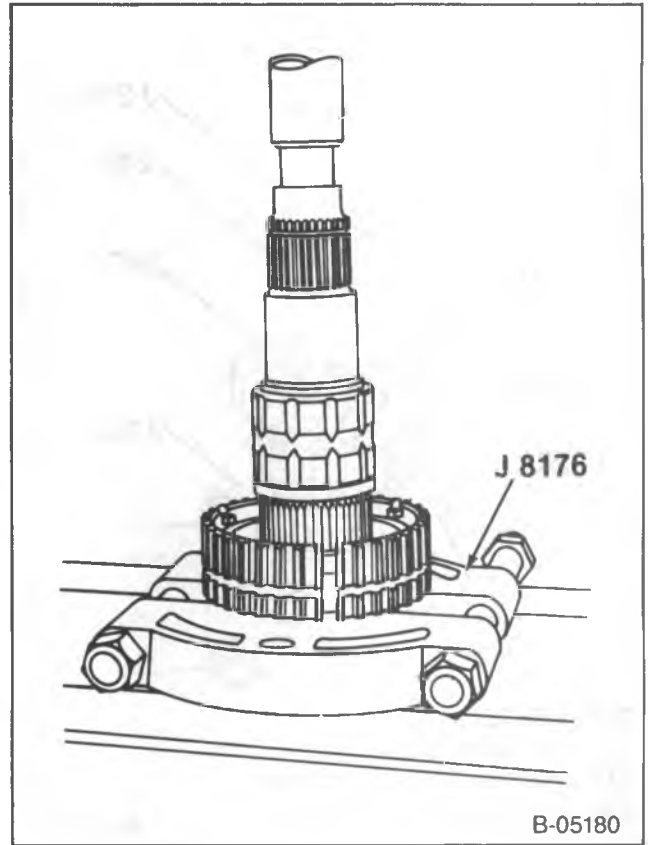

Figure 17 –Installing the 1st and 2nd Synchronizer
3. 1-2 synchronizer hub (210), (figure 17).